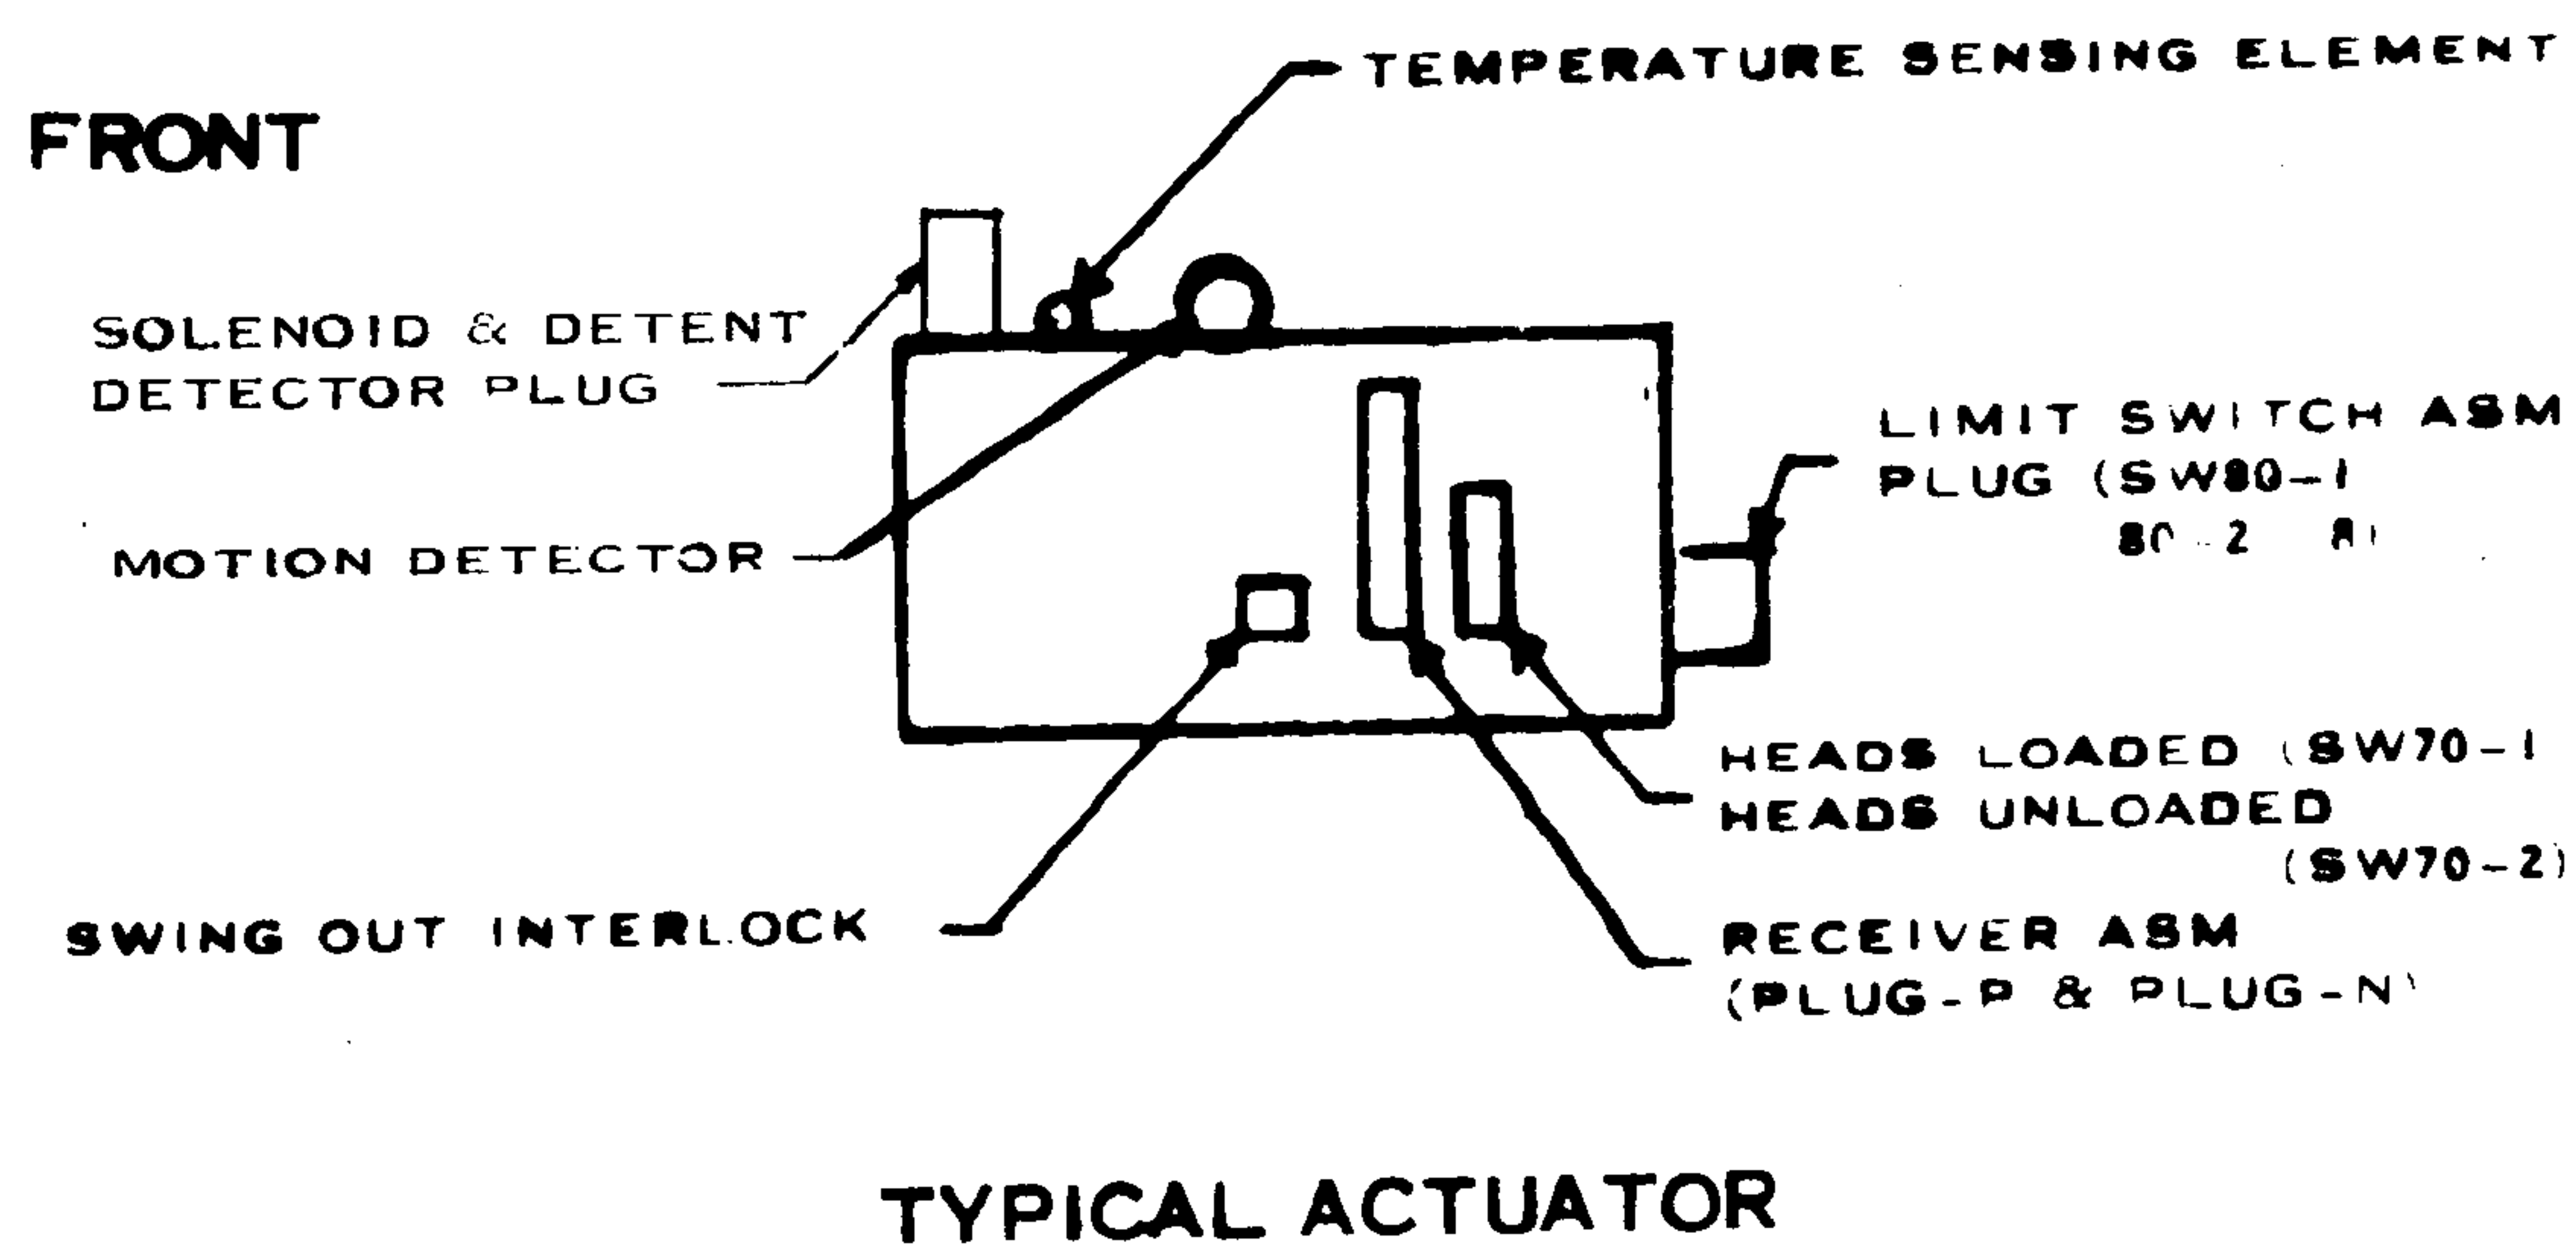

FIGURE 3-7 1301 COMPONENT LOCATIONS (FRONT)
- D. Figures 3-7, 3-8, and 3-9 show the plugging locations for the interframe cables.